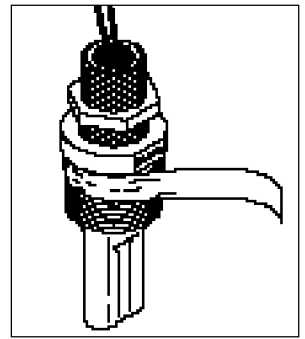

FIGURE 2
4. Apply at least six wraps of teflon tape to threads of electrode. Install nipple and adapter if not already installed (Figure 2).